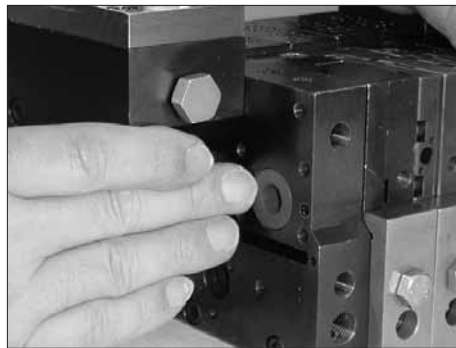

Figure 7-77 Installing the pump shaft support bearing
7. See Figure 7-77. Install the pump shaft support bearing in each end of the applicator.